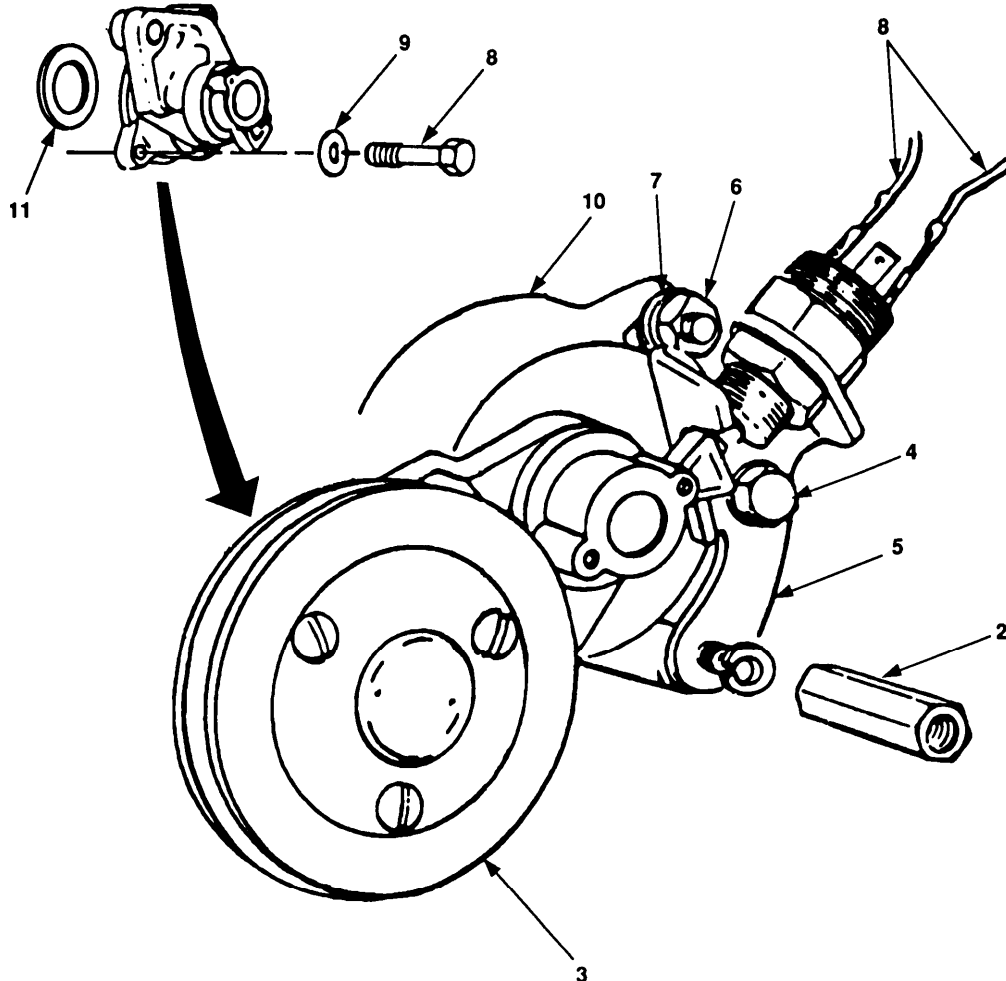

Figure 4-34. Idler Pulley Assembly Maintenance.
- a. Tag and disconnect V-belt contact switch wires (figure 4-34, 1).
- b. Remove spacer (2).
- c. Hold pulley (3) and remove bolt (4) and contact switch bracket (5).
- d. Remove nut (6), washer (7), bolt (8), washer (9) and idler pulley assembly (10).
- e. Remove and discard preformed packing (11).